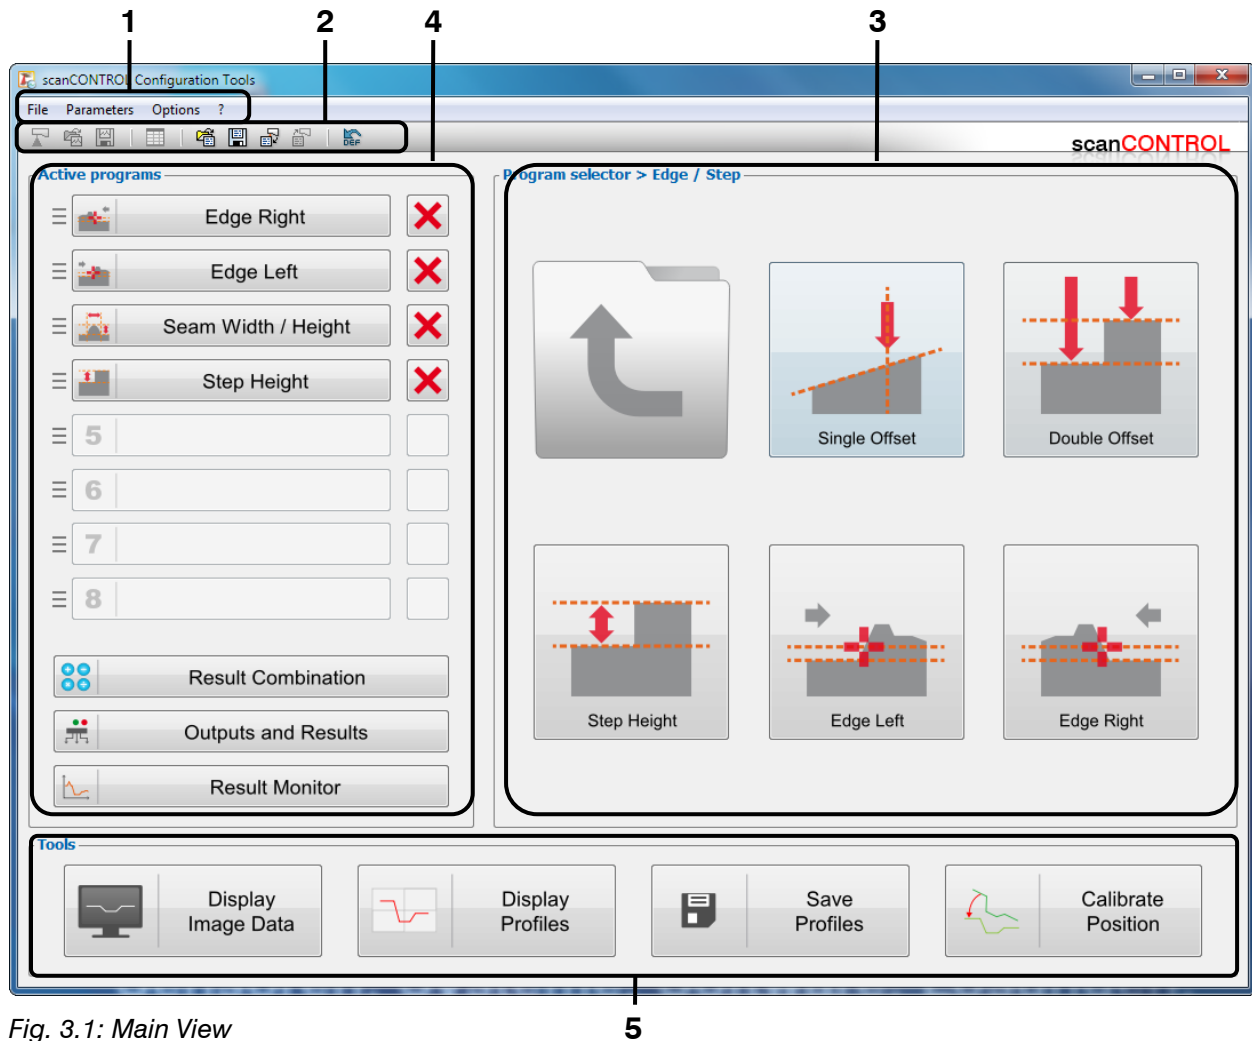

Fig. 3.1: Main View
- Use the "Program selector" input field (see Fig. 3.1) in order to select up to eight measuring programs. The selected programs are shown in the "Active programs" input field.
- Configure the individual measuring programs. To do this, press the according buttons in the "Active programs" input field (see Fig. 3.1) or use the navigation menu (see Chapter 3.19). The view of the selected measuring program will be shown (see Chapter 4).
- Combine measured values, if necessary. You will access the "Result Combination" view (see Chapter 5) by pressing the "Result Combination" button in the "Active programs" input field (see Fig. 3.1) or by using the navigation menu (see Chapter 3.19).
- Configure the filters for measured values and the output ports of scanCONTROL. You will access the "Outputs and Results" view (see Chapter 6) by pressing the "Outputs and Results" button in the "Active programs" input field (see Fig. 3.1) or by using the navigation menu (see Chapter 3.19).